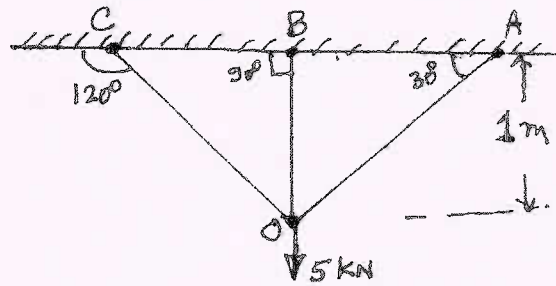

Fig.Q.9
- 9 Analyze the truss shown in Fig.Q.9 using stiffness matrix method. It cross sectional areas of vertical member 300mm^2 and inclined members area 200mm^2 . Take $E = 2 \times 10^5 \text{N/mm}^2$.